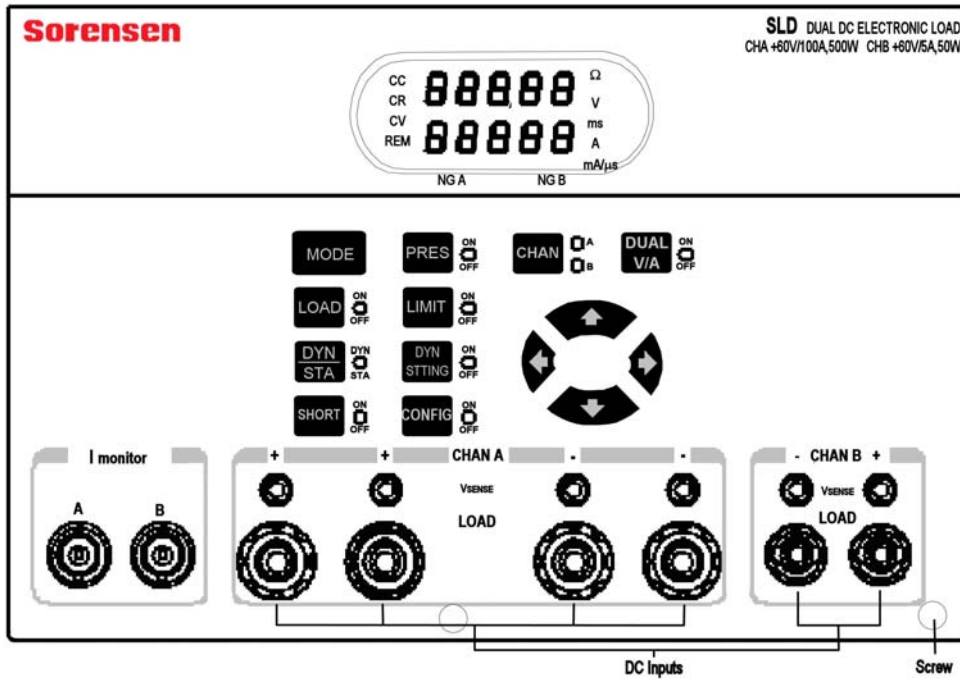

Figure 2-2 550W Load Input Connector and Screw for Double-Bay Unit
4. Fasten the screw on the lower and right hand side corner of the SLD-series front panel with screwdriver, the screw location is shown on Figure 2-2.